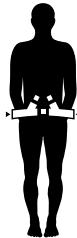

Figure 24 – Waist restraint location
1. Wrap the restraint around the cot frame where the matching label is located (Figure 24).